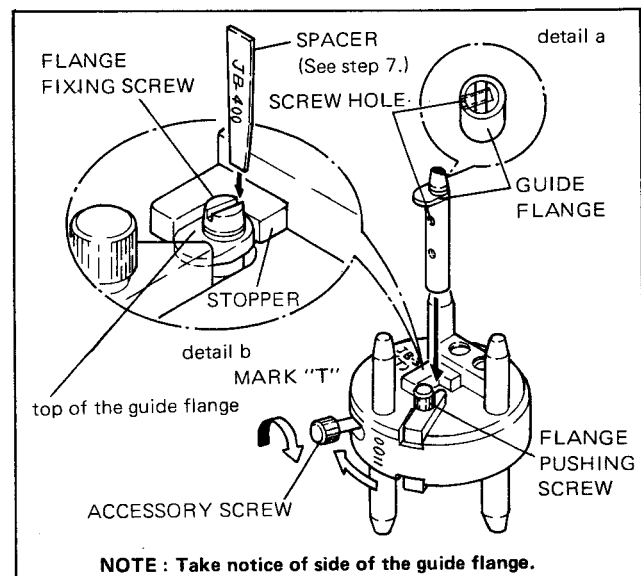

Fig. 6-30. Assembly of Exit Guide Flange and Guide Post
4. Set the guide post and flange as shown in the detail "a" of Fig. 6-30, and tighten the flange fixing screw lightly so that the flange can move.
5. Place the surface marked with "T" of the guide flange fixture upward, and place the guide post as shown in the detail "b" of Fig. 6-30.